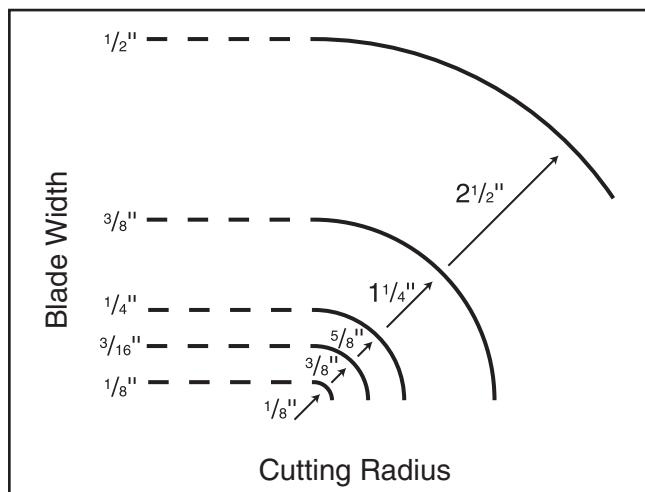

Figure 47. Blade width radii.
- **Curve Cutting:** Use the chart in Figure 47 to determine the correct blade for curve cutting. Determine the smallest radius curve that will be cut on your workpiece and use the corresponding blade width.